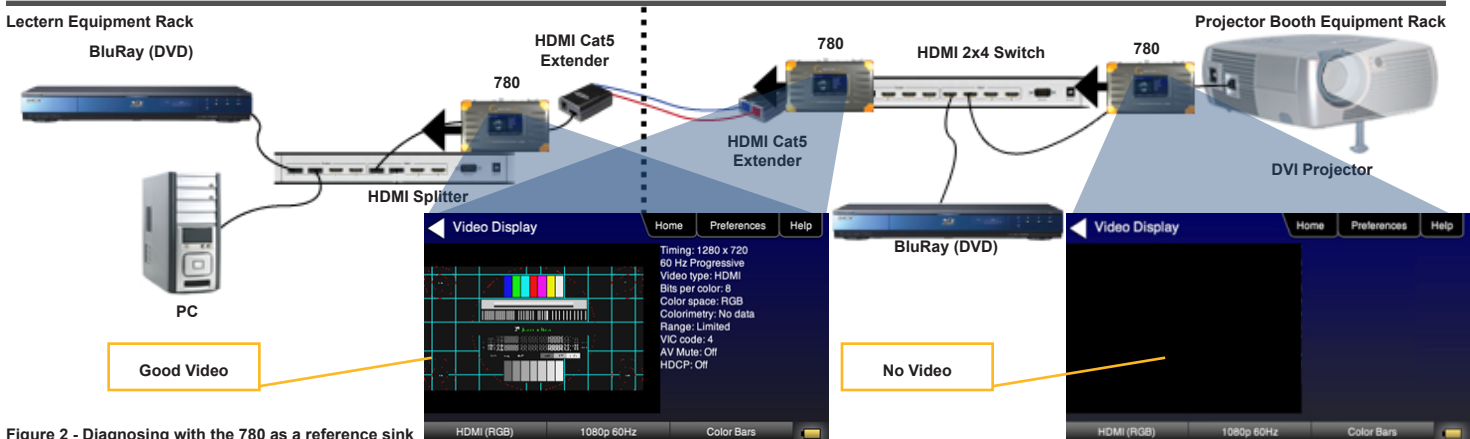

Figure 2 - Diagnosing with the 780 as a reference sink
**Diagnostic Procedure:** Quick confidence tests were performed with the 780 emulating a known-good HDMI sink starting initially from the projector and looking upstream toward the HDMI source for problems with the EDID and to check basic HDCP authentication. *Refer to Figure 2* The 780 can emulate any EDID and for these tests, a set of known-good EDIDs were used to test the sources' response. There were no EDID handling anomalies detected in this first series of tests. But there were some failures to detect incoming video on the upstream side of the HDMI 2x4 switch. These were most likely related to HDCP.